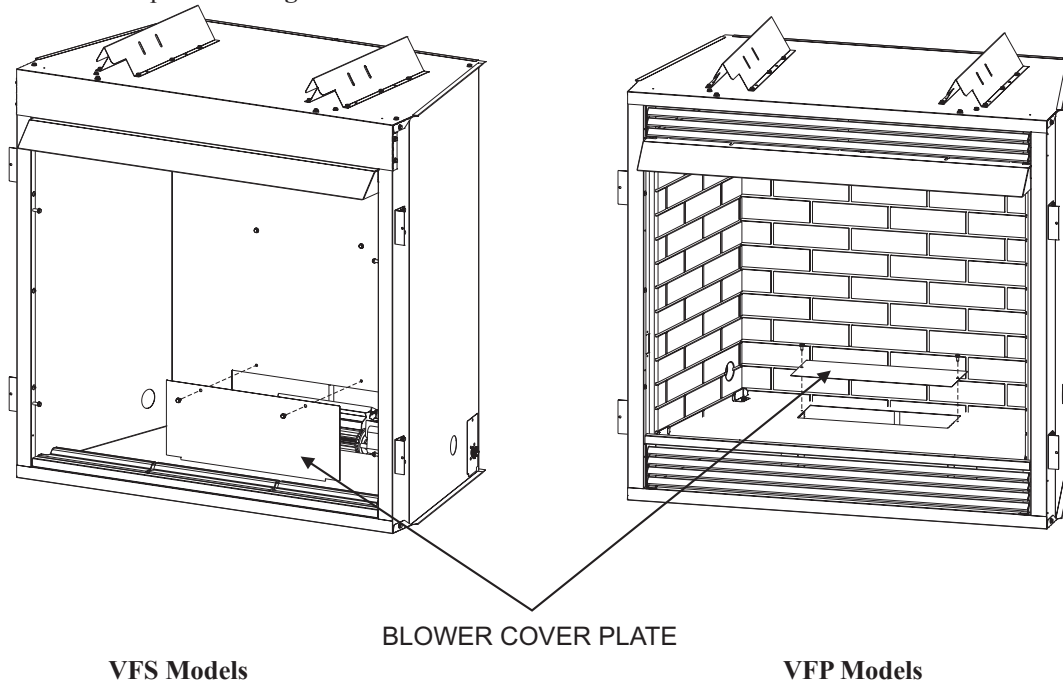

Figure 1
1. Remove the blower cover plate. See Figure 1.